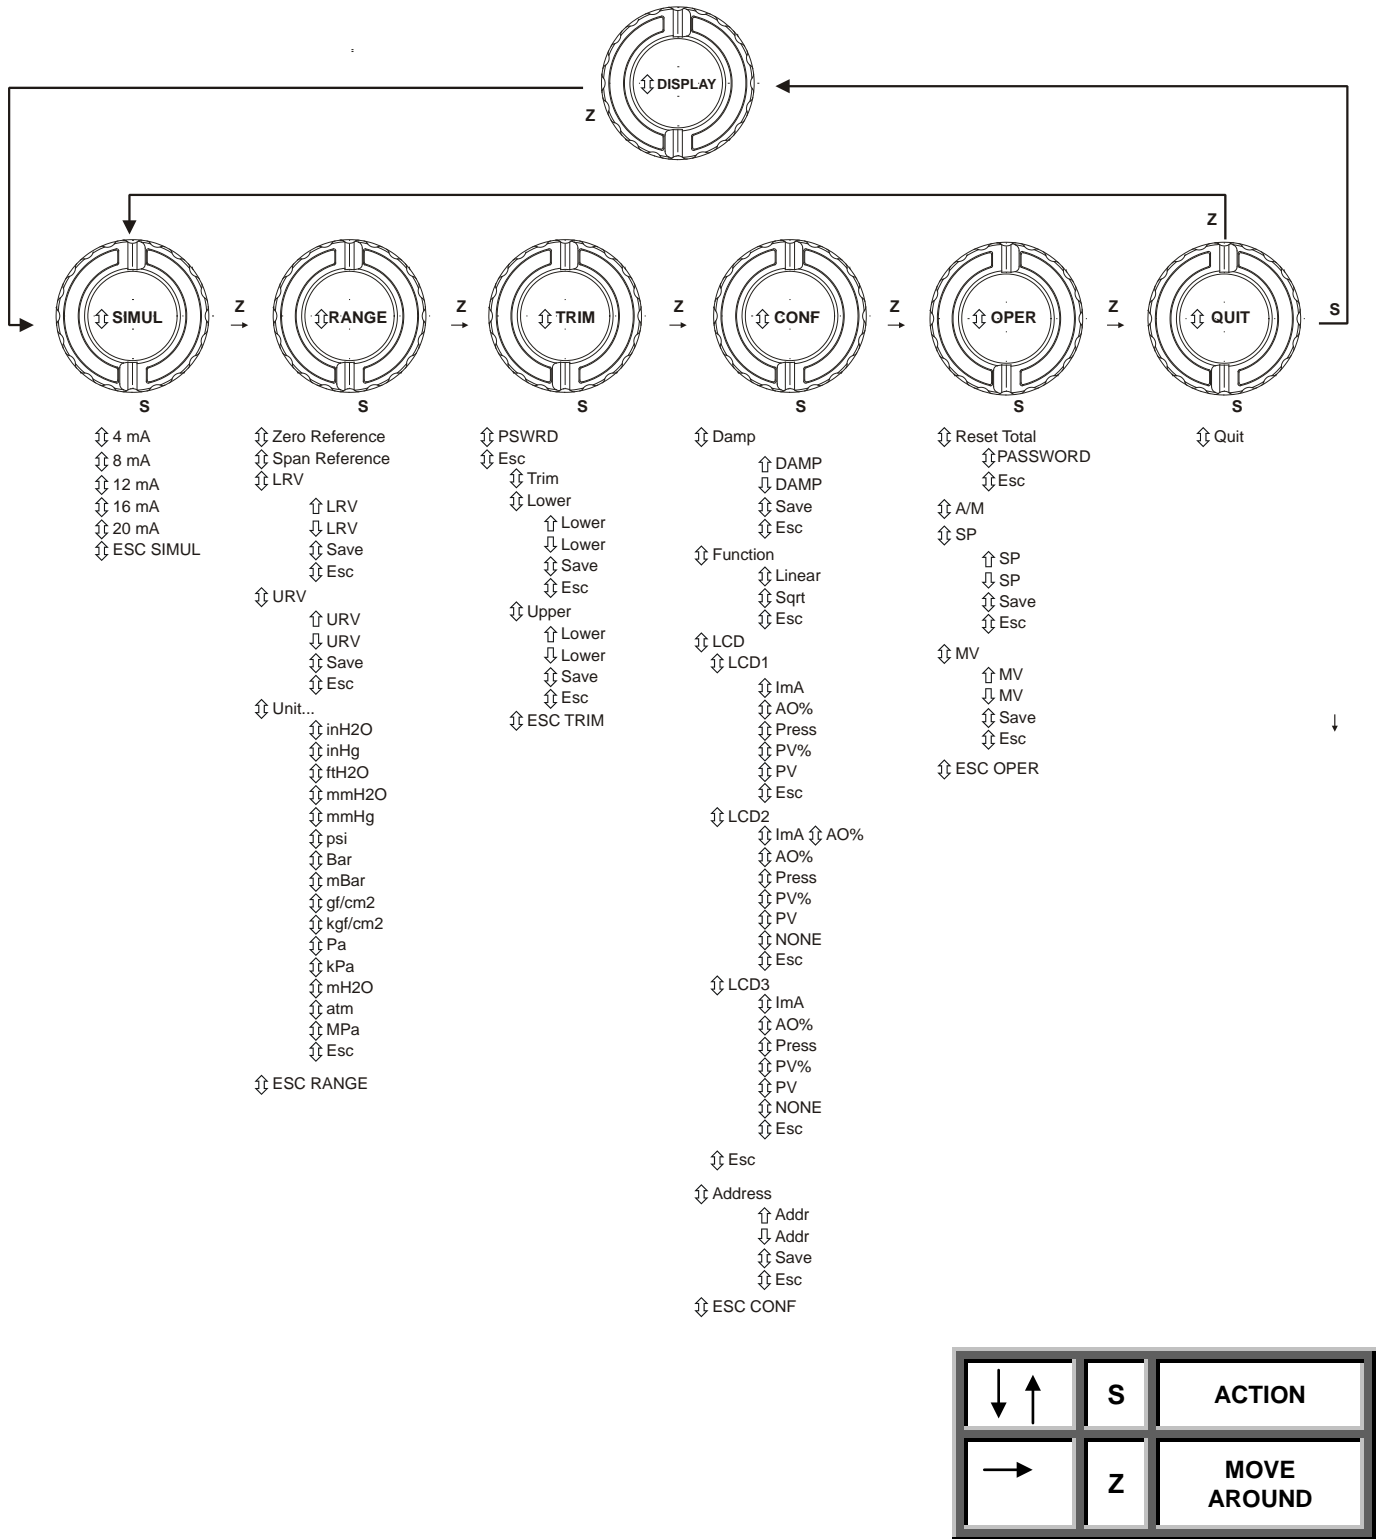

Figure 5.3 – Local Adjustment Programming Tree – Main Menu
- ✓ In order to reach the desired option, browse the options, wait until they are displayed and move the magnetic tool from **(Z)** to **(S)**. Refer to Figure 5.3 – Local Adjustment Programming Tree, in order to know the position of the desired option. By placing the magnetic tool once again in **(Z)**, it is possible to browse other options within this new branch.